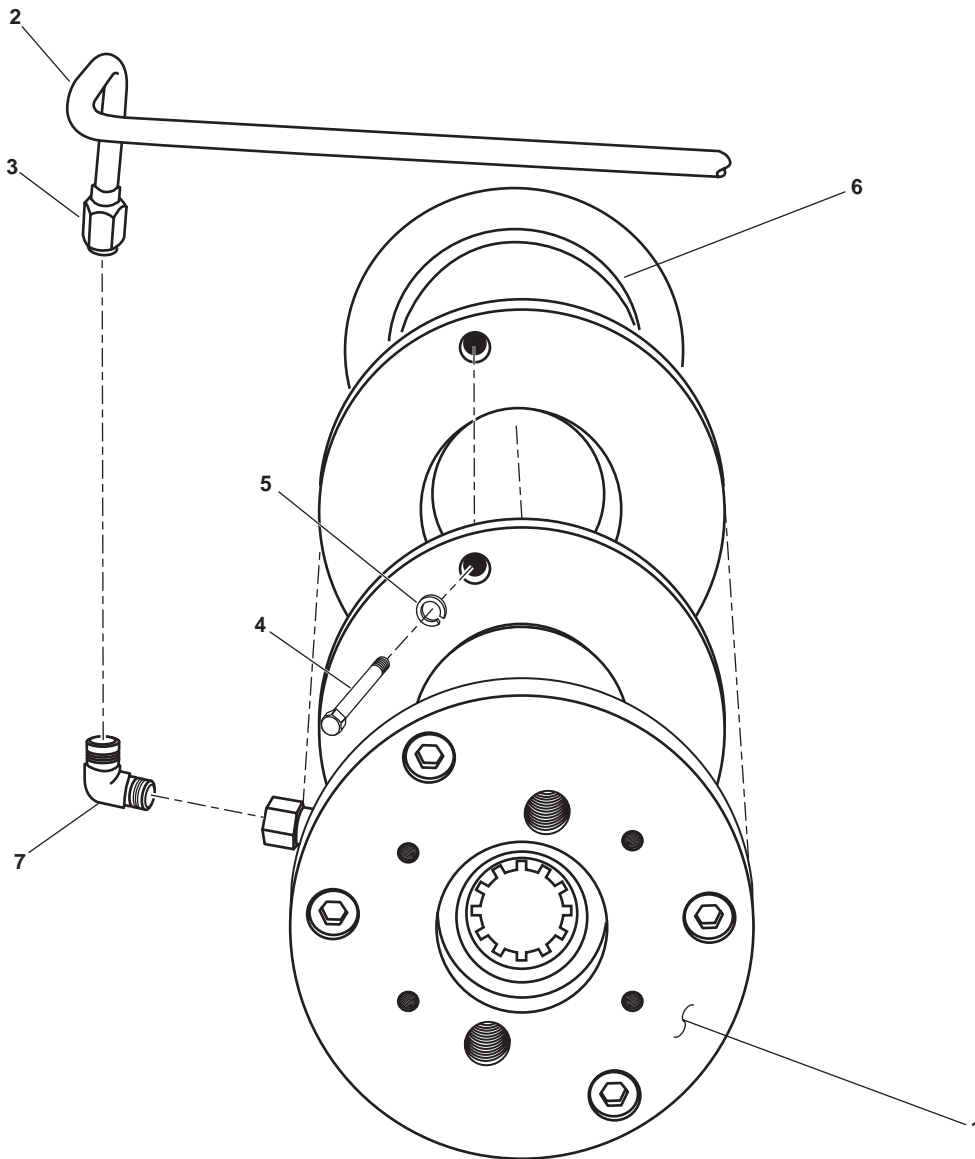

Figure 1. Fail safe Brake
2. Place a suitable drain pan under the fail safe brake (figure 1, item 1).
3. Release the hydraulic pressure in the brake tubing (figure 1, item 2) by slowly loosening the brake tubing fitting (figure 1, item 3). Drain the hydraulic fluid from the brake tubing into the suitable drain pan.
4. Remove the brake tubing (figure 1, item 2) from the fail safe brake (figure 1, item 1).
5. Remove the four bolts (figure 1, item 4) and the four lockwashers (figure 1, item 5) from the fail safe brake (figure 1, item 1) and the coupling housing (figure 1, item 6). Discard the lockwashers.
6. Remove the fail safe brake (figure 1, item 1) from the coupling housing (figure 1, item 6).
7. Remove the hydraulic fittings (figure 1, item 7) from the fail safe brake (figure 1, item 1).
1. Fill the fail safe brake (figure 1, item 1) with hydraulic fluid where the hydraulic fittings (figure 1, item 7) will be installed. Fill to the level of the opening.
2. Install the hydraulic fittings (figure 1, item 7) in the fail safe brake (figure 1, item 1).